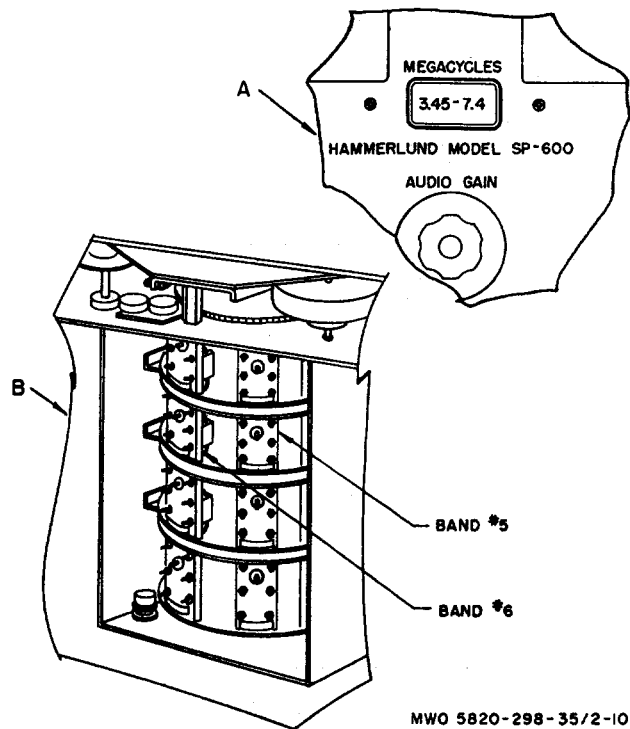

Figure 10. Location of RF interstage subassemblies for bands 5 and 6.
- (1) Set the band change switch to band 3, as indicated at A, figure 10. This will bring the RF interstage subassemblies for bands 5 and 6 to the bottom and accessible for easy removal (B, fig. 10).
- (2) Place the receiver in a position to permit access to RF interstage subassemblies.
- (3) Using the special pliers (FSN 5120-293-3476), remove the flat springs that hold the RF interstage subassemblies for bands 5 and 6 to the RF tuning unit rotary turret. Remove the subassemblies. For removal pro-